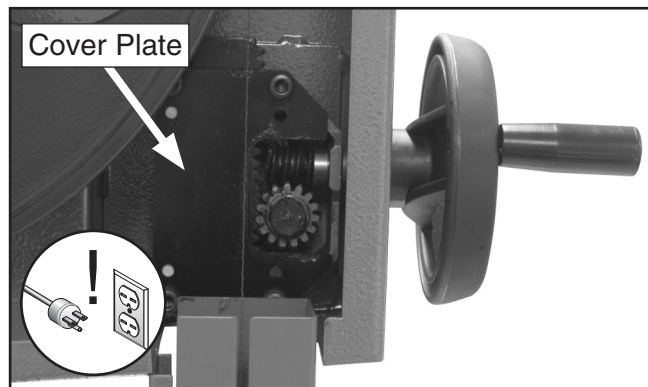

Figure 56. Guide post gears.
2. Lower the guide post down so the upper guide bearings almost touch the table, then open the upper wheel cover to access the gears, shown in **Figure 56**.